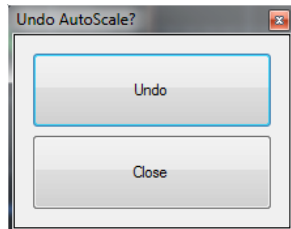

Figure 2-36 Undo AutoScale? dialog
- 3 Once autoscaling has completed, the Undo AutoScale? dialog is displayed as shown in Figure 2-36.